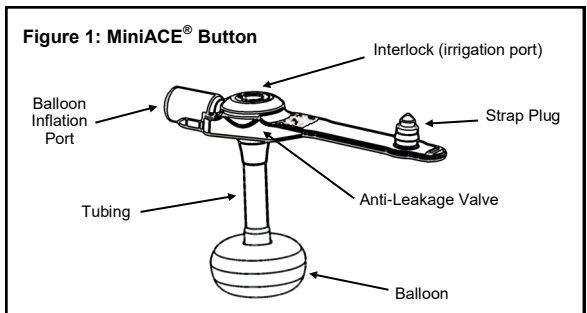

Figure 1: MiniACE® Button
- (1) AMT MiniACE® Button (Fig. 1)
- (2) 4 x 4 inch Gauze